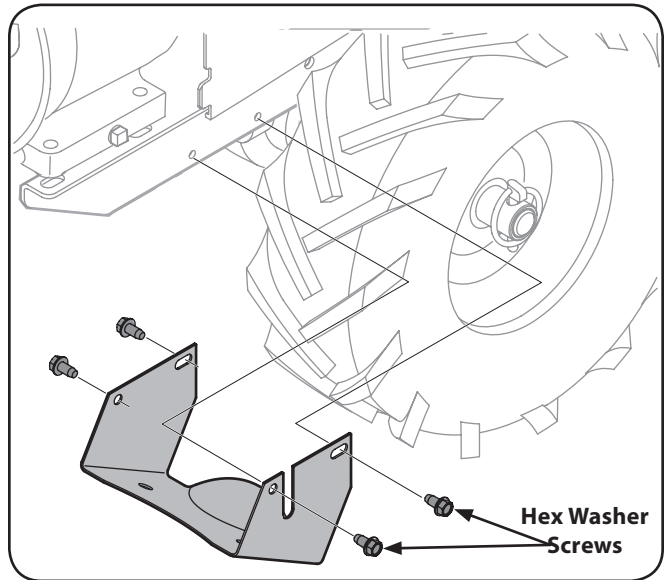

Figure 7-2
3. Remove the four hex washer screws that secure the pulley shield to the frame as seen in Figure 7-2, and remove the pulley shield and set aside in a safe location until reinstallation.